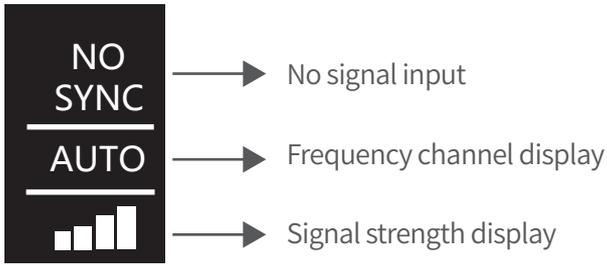
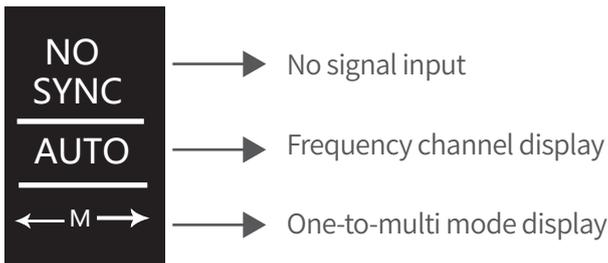

Fig. 1
Fig. 3
When no signal input, the transmitter is consistent with the receiver display content. See Fig. 1
When the transmitter has no signal input, see Fig. 3
- (1) Connecting SDI IN/HDMI IN interface of FLOW500 transmitter with SDI OUT/HDMI OUT interface of camera or video output device. Connecting SDI loop out interface of FLOW500 transmitter with SDI IN interface of monitor or switcher.
- (2) Connecting SDI OUT interface of FLOW500 receiver with SDI IN interface of monitor or switcher. When using one-to-multi mode, every SDI OUT interface of receiver should be connected with SDI IN interface of monitor or switcher.
- (3) Switch on both FLOW500 transmitter and receiver, "Power" indicator light up, OLED screen show "WAIT..." then jump to initial interface, see fig.1 or fig.3; Wait until "Link" and "Video" indicator light up, the transmitter and receiver have identifiable signal inputs and connected successfully. If the transmitter and receiver have identifiable signal inputs but fail to establish a connection, the "link" indicator will flash.
- (1) Connecting SDI IN/HDMI IN interface of FLOW500 with SDI OUT/HDMI OUT interface of camera or video output device. Connecting SDI loop out interface of FLOW500 transmitter with SDI IN interface of monitor or switcher.
- (2) When using one-to-multi mode, every SDI OUT interface of receiver should be connected with SDI IN interface of monitor or switcher.
- (3) Switch on both FLOW500 transmitter and receiver, every receiver should be switch on when using one-to-multi mode. "Power" indicator light up, OLED screen show "WAIT..." then jump to initial interface, see fig.1 or fig.3; Wait until "Link" and "Video" indicator light up, the transmitter and receiver have identifiable signal inputs and connected successfully, right push the joystick to "PREF" interface, see fig.11.
- (4) It is recommended to choose high quality mode for wireless devices under normal operating conditions, such as better environment, stronger signal, or more than one set of wireless devices under the same scene.
- (5) Wall through mode is recommended for wireless devices under complex operating conditions, such as poor on-site environments, high distance barriers and only 1-2 sets of wireless devices in the same scene. (If more than one set is used in the same scene, it is recommended to use a high quality mode to reduce interaction)